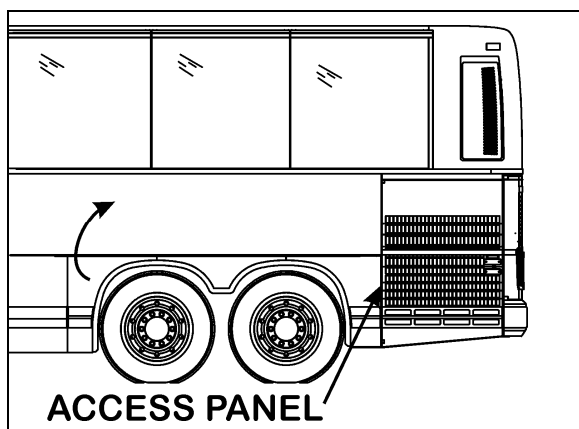

FIGURE 11: ACCESS PANEL (TYPICAL)
7. Unfasten 4 cap screws and remove access panel located behind tag axle L.H. side wheel (refer to figure 11).